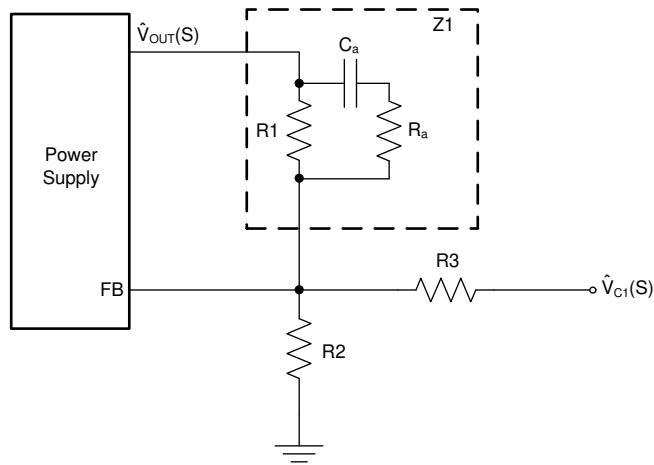

Figure 2-6. Block Diagram With Margining Circuit (Type-3 Compensator)
For the Type-3 compensator, there is an R-C network in parallel with R1. In this case, Z1 must be used to replace R1 as shown in Figure 2-6 and Equation 14.
- Z_1 is defined in Figure 2-6